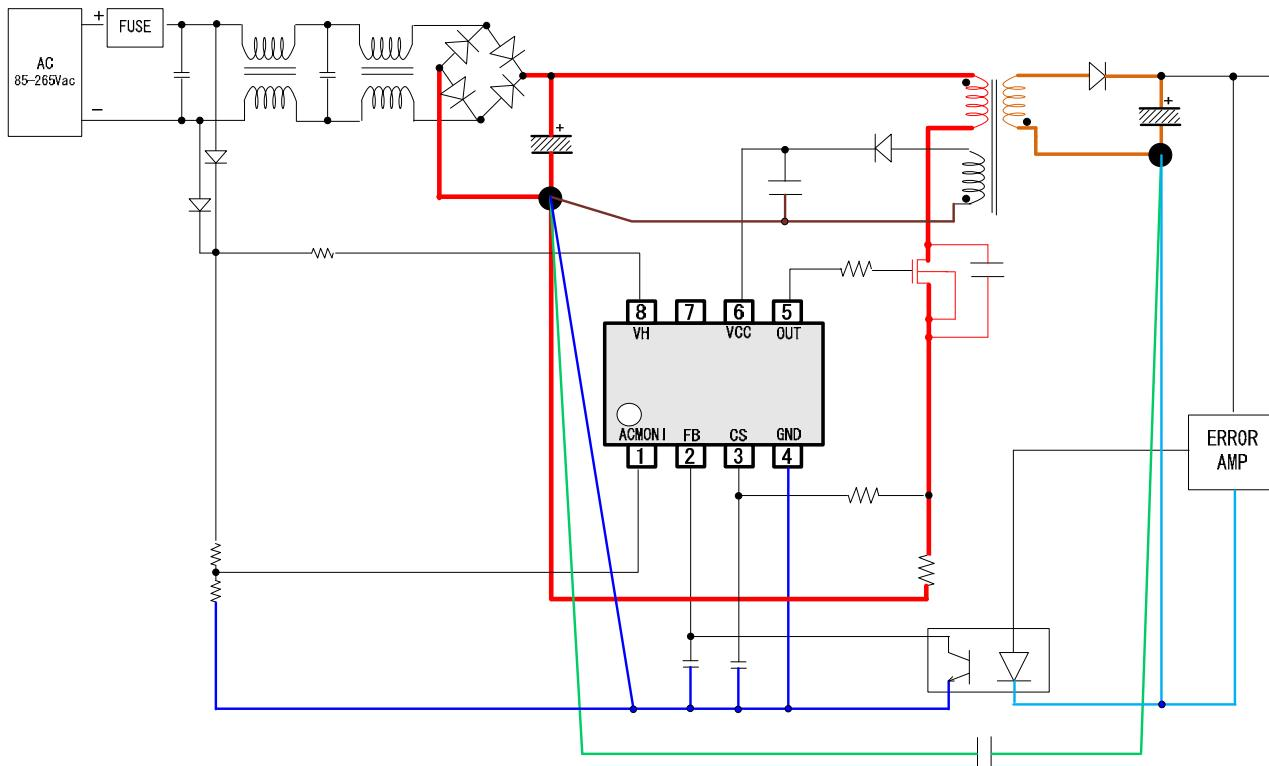

Figure 27. Board Layout Pattern
- ① The red lines shown in Figure 27 are large current pathways. In the layout, these should be as short as possible since they can cause ringing, dissipation, etc.
- ② The orange lines in the secondary side of Figure 27 should also be made short and thick like the red lines and should be made with small loops in this layout.
- ③ Be sure to implement grounding for the red lines, brown lines, blue lines, and green lines.
- ④ The green lines are pathways for surges on the secondary side to escape to the primary side, and since a large current may flow instantaneously, they should be laid out independently of the red lines and blue lines.
- ⑤ The blue lines are GND lines for IC control. They do not have any large current flow, but they are susceptible to noise effects, so they should be laid out independently of the red lines, green lines, and brown lines.
- ⑥ The brown lines are current pathways for the VCC pin. A current flows on these lines during switching, so they should also be laid out independently.
- ⑦ Do not route any IC control lines directly under the transformer, since they may be affected by magnetic flux.